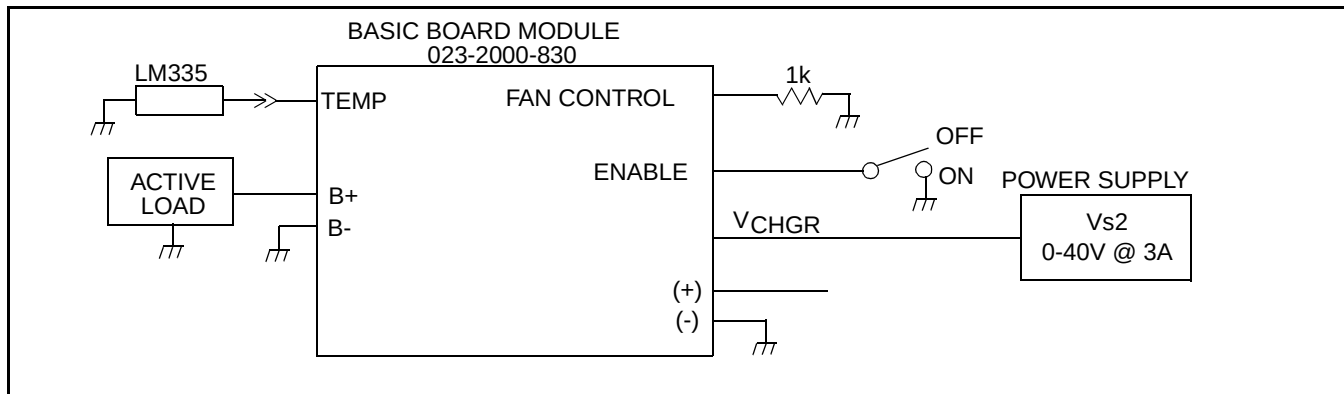

Figure 6-16 Battery Charger Test Setup
1. Connect Battery Backup Module as shown in Figure 6-16.